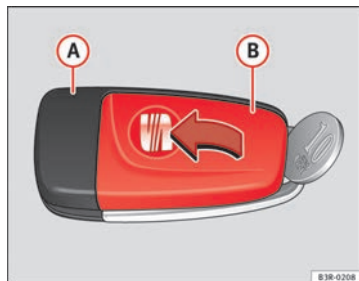

Fig. 69 Master key:
- **Carefully** prise apart the key ⇒ fig. 69 A and the cover B using a coin.